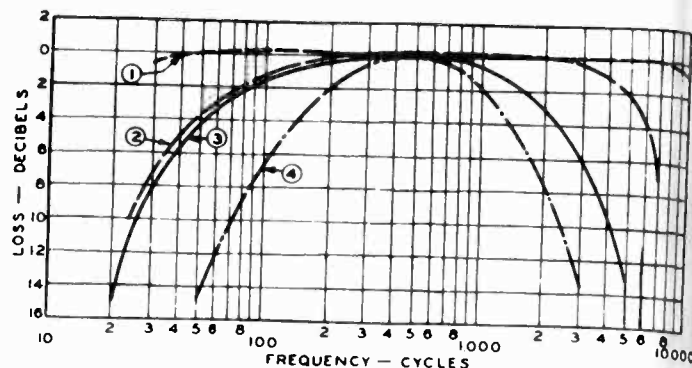

Fig. 1—Comparison of transmitters and receivers of a few years ago with those of recent date.
The performance of recent broadcasting equipment transmitting the range of audible frequencies is indicated in Fig. 1. In this figure, (1) is the characteristic of the present Western Electric 50 kw. transmitter, (2) is that of the Western Electric 500 watt transmitter of 1922 and (3) and (4) are characteristics of typical radio receivers of the present and 1926, respectively. It is evident that the faithfulness of reproduction still depends largely upon the performance of the receiver.